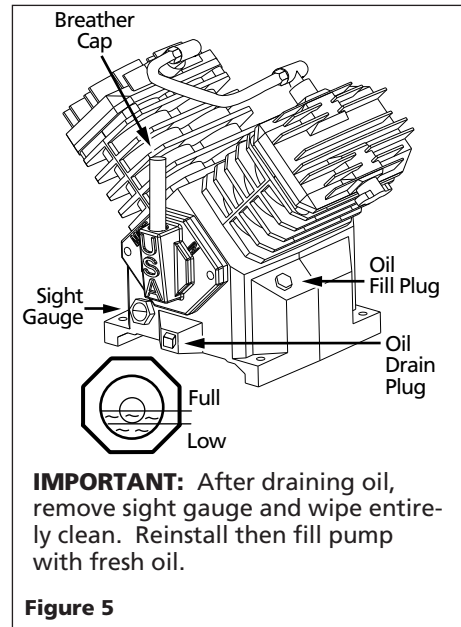

Figure 5
| Change Oil (See Fig. 5) | | | | ● |
*If oil level is difficult to see, use additional light or clean sight gauge (refer to Figure 5).